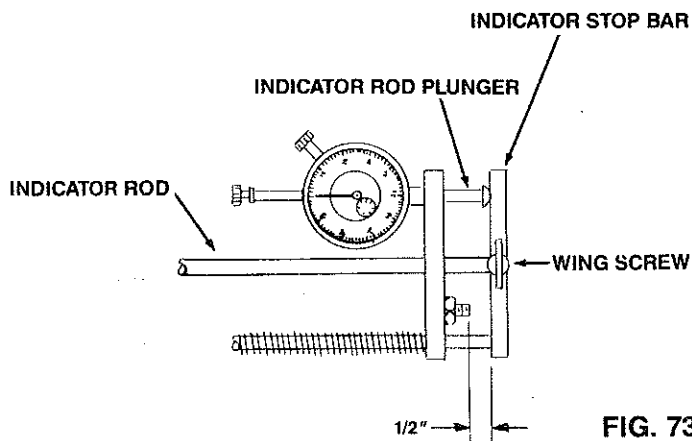

FIG. 73
- C. Now loosen the wing screw on the indicator stop bar. Holding the indicator rod firmly against the reel shaft, move the indicator stop bar back, until no contact is made with the indicator rod plunger. Now move indicator stop bar forward until contact is made and then an additional 1/2". This will set the plunger at about its midpoint and allowing it to move in both directions. (See FIG. 73)